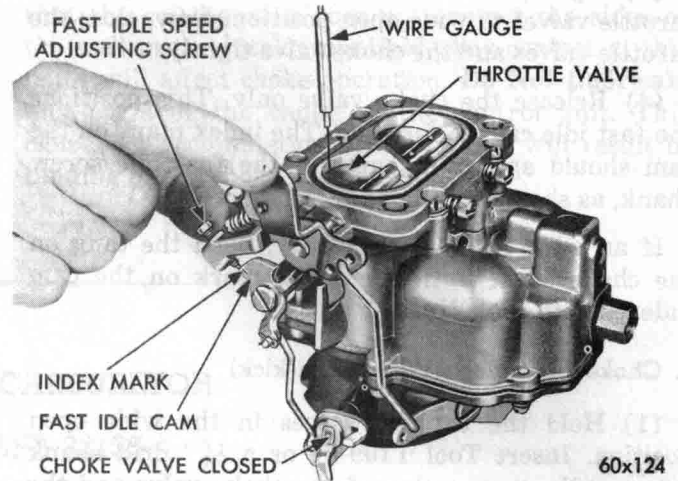

Fig. 17—Checking Fast Idle Setting
(1) Open the throttle valves and hold the choke valve in the fully closed position. Close the throttle valves. This will position the fast idle cam to the fast idle position.
(2) Hold in this position, then invert the carburetor. Slide wire gauge Tool T109-44 (.015) between the throttle valves and the bore (side opposite ports). Tighten the fast idle adjusting screw until a slight drag is felt as a gauge is being withdrawn, as shown in Figure 17.